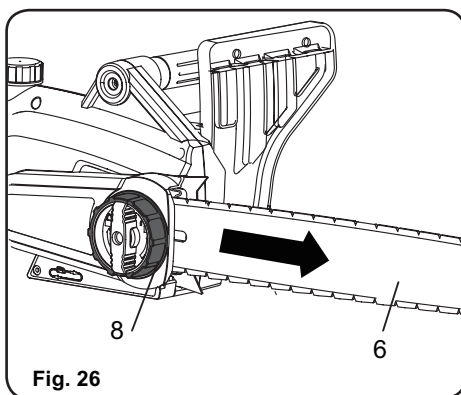

Fig. 26
Turn the tension wheel (8) until the chain "tie straps" are just touching the bottom edge of the guide bar (6) (Fig. 26).